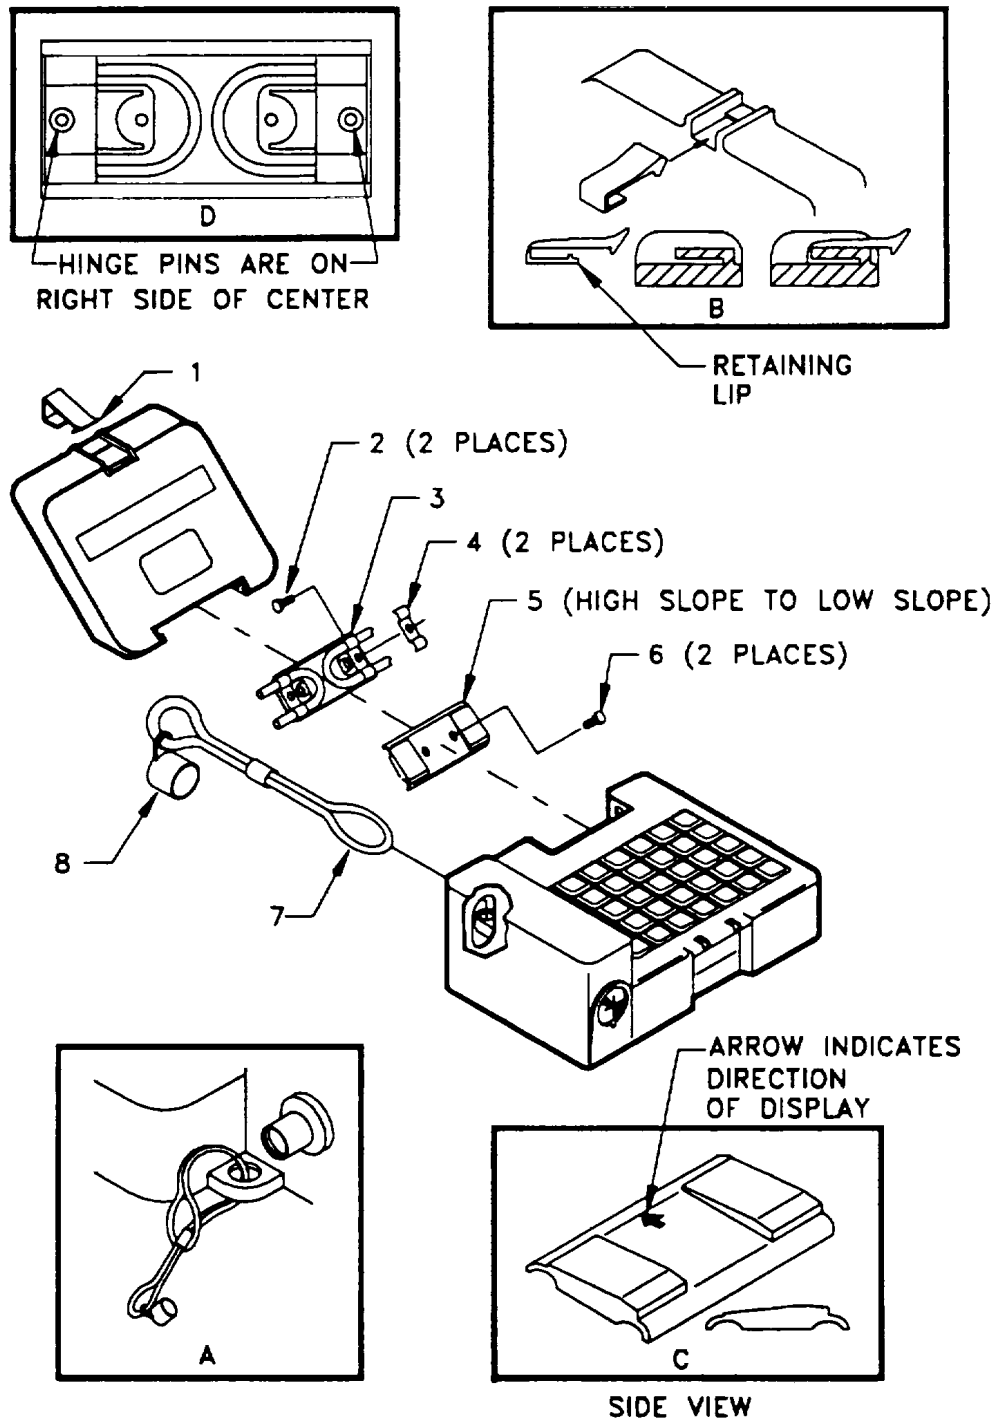
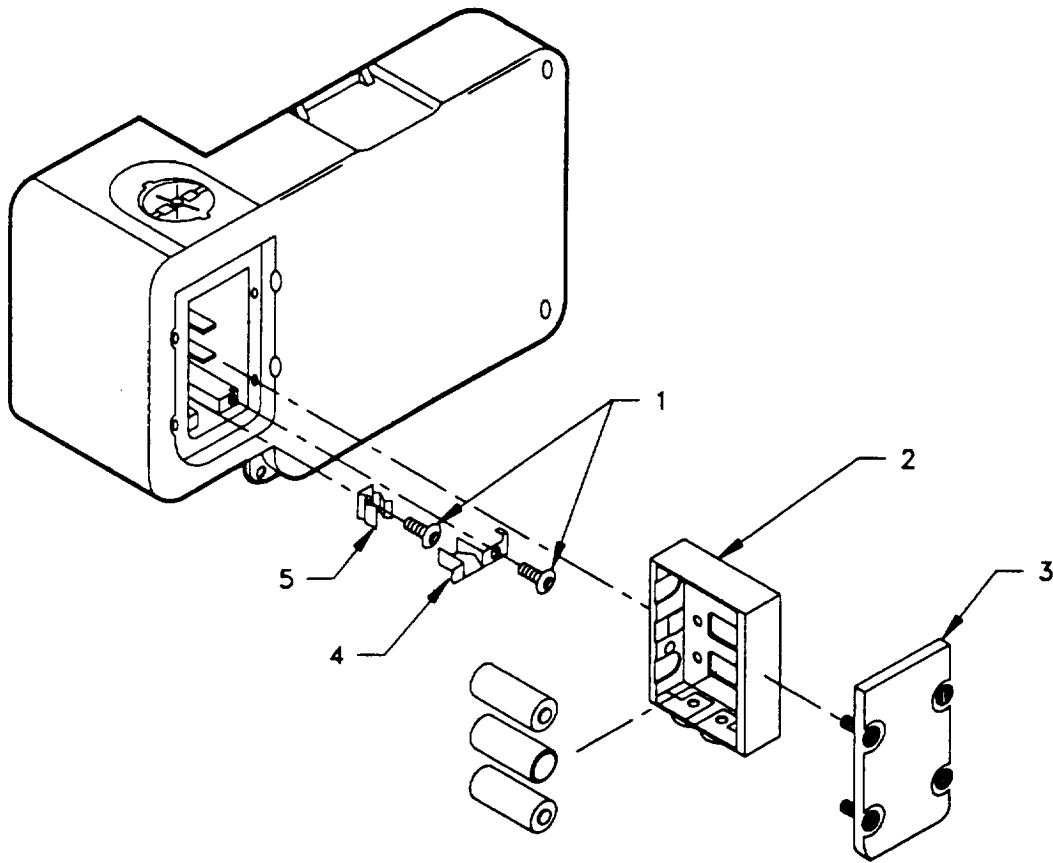

Figure 4-1. Assembly Replacement
Figure 4-2. Housing Battery Contacts
The following paragraphs describe replacement procedures for housing components at Unit level maintenance. Refer to Figure 4-1 for location of parts.
- a. Hinges. The hinge assembly is composed of two hinge cover plates, two springs, and the four screws that are user replaceable. The hinge covers are not interchangeable. The following paragraphs detail the replacement procedures. Refer to Figure 4-1 to replace any part of the assembly.
**(1) Front Hinge Cover**
STEP 2 Using a Phillips screwdriver, remove the two hinge screws (2) holding the top cover (5) onto the hinge assembly.
STEP 4 Install and tighten the two hinge screws (2) into the assembly.
The hinge cover is molded to be installed one way with the little slope facing the top cover, see insert "C" of Figure 4-1; if it is installed backwards the cover will not close. Attempts to close the cover will break the display assembly and the ANCD will have to be replaced. Do not over tighten the screws as damage will occur to the hinge assembly requiring the replacement of one or both cover plates.
- STEP 3 Remove the defective spring (4) and install the new spring. Ensure the hinge is positioned so that the narrow space between the hole is to the outside, see insert "D" of Figure 4-1.
STEP 4 Install the front cover plate (5) over the assembly; insert the two screws (2) and tighten assembly.
**(3) Rear Hinge Cover**
- STEP 1 Remove the front hinge cover plate (5).
STEP 2 Remove the two hinge springs (4).
STEP 3 Replace the defective rear hinge cover plate (3) with a new plate.
STEP 4 Install the hinge springs (4).
STEP 5 Install the front hinge cover plate (5).
- b. Fill Connector Cover. The fill cover assembly is made up of three components; the rubber cover, nylon cord and retaining clip. The assembly is replaced as a complete unit as described below; refer to Figure 4-1 for location of parts.
- STEP 1 Remove the defective fill cap assembly (8) from the ANCD by using a knife to cut the nylon cord (7) at the ANCD housing end; then remove cord and cover from the ANCD housing.
STEP 2 Lace the replacement cord through the ANCD housing hole, see insert "A" of Figure 4-1.
STEP 3 Loop the rubber boot through the loop in the other end of the cord and pull the cover (8) gently through to compress the knot to the ANCD case.
- c. Latch Snap. To replace a broken cover latch, use the following procedure. Refer to Figure 4-1, and "Insert B" of the figure for part location.
- STEP 1 Using a flat tip screwdriver carefully press on the retaining lip of the latch (1).
- d. Battery Cover(s). To replace the battery cover use the following procedures for replacement. See Figure 4-2 for part location.
STEP 1 Loosen the four captive screws on the cover (2) and lift the assembly off the housing.
- e. Housing Battery Contacts. The battery contacts are unique to the polarity of voltage applied; that is, the positive contact is different in appearance from the negative contact. Both contacts use the same attaching hardware, so the replacement procedure is the same for both contacts as described below refer to Figure 4-2 for location of parts.
STEP 1 Remove the battery cover (3) and battery holder (2).
STEP 2 Using a 1/16 inch hex driver, remove the screw (1) from the defective contact (4 of 5).
STEP 5 Install the hex-screw (1) into the contact and tighten the screw carefully.